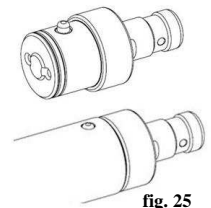

fig. 25
- Insert the inlet part into the whipping pipe. (fig. 25)